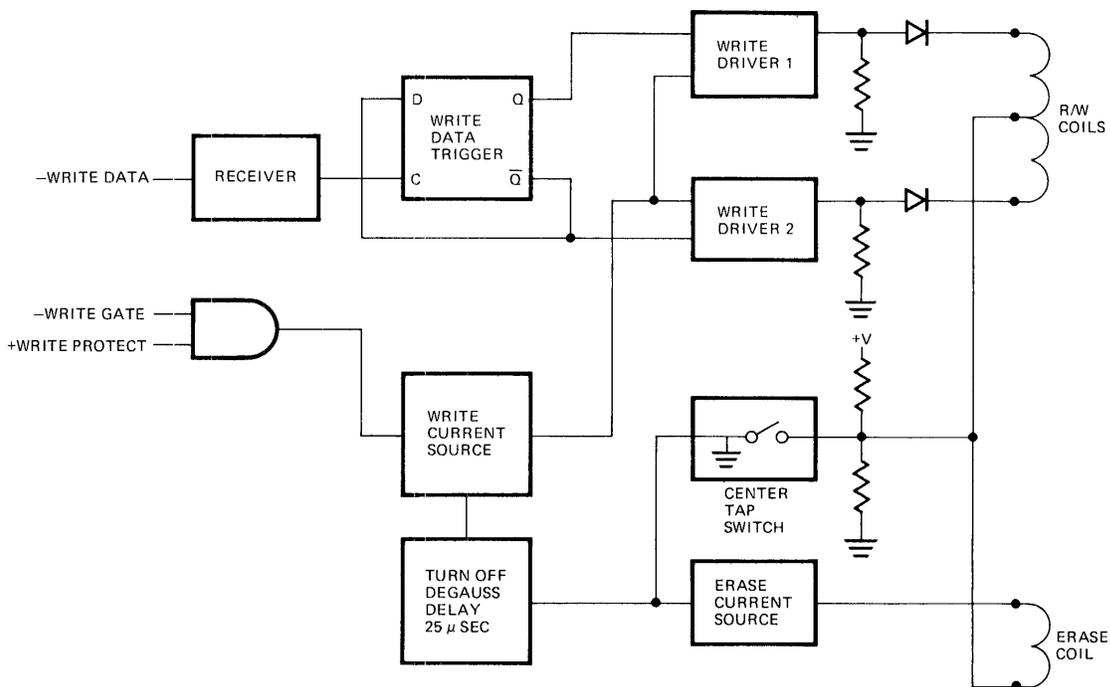

FIGURE 24. WRITE CIRCUIT FUNCTIONAL DIAGRAM
**9.0 WRITE CIRCUIT OPERATION (FIGURE 24)**